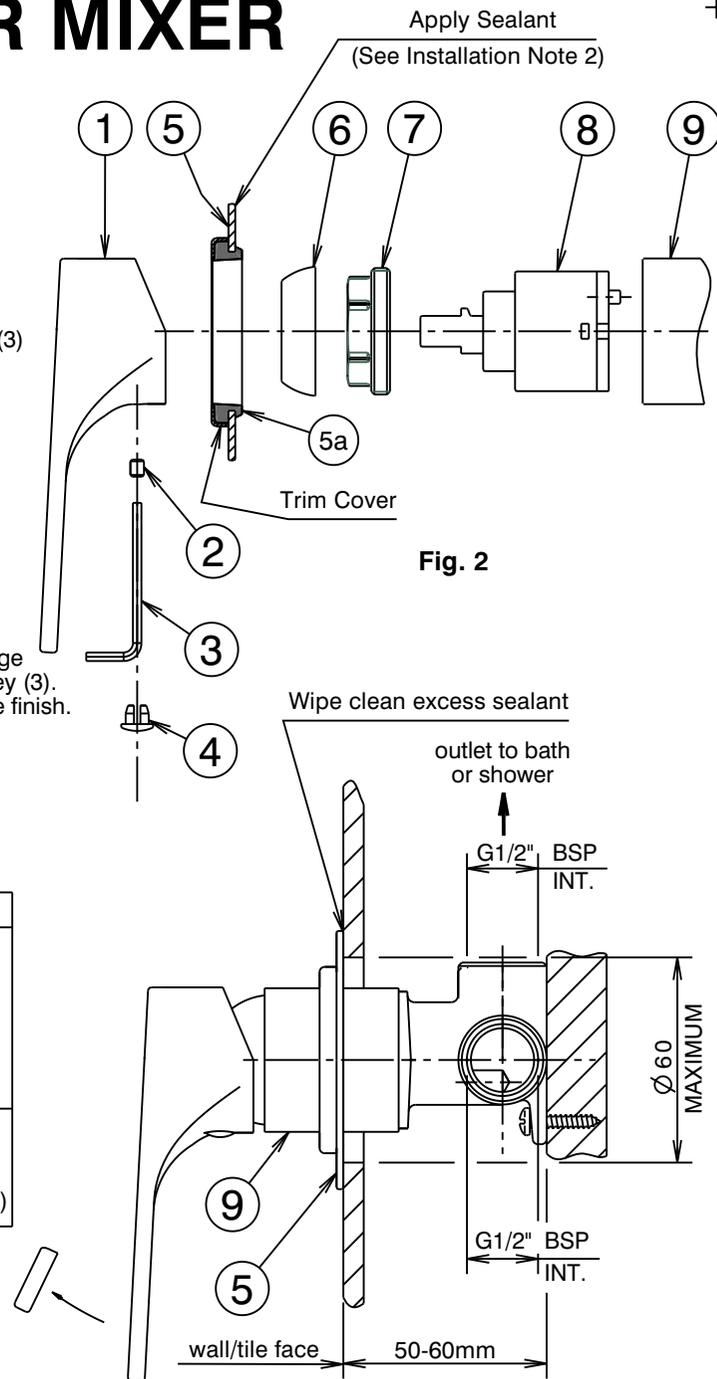

Fig. 1
Installation (Fig. 1 & 2)
- 3) Carefully slide the cover plate (5) together with trim cover & seal (5a) onto the mixer body (9). Ensure the **Caroma** marking is at the bottom then push firmly on the trim cover until the cover plate (5) contacts the wall/tile face and the sealant has formed a watertight joint. Wipe clean any excess sealant from the chrome surfaces & the wall/tile face (See Fig. 1).
- 4) Fit handle (1) taking care that it is pushed fully onto cartridge stem, then tighten grub screw (2) using the 2.5mm allen key (3). Fit plug (4), taking care not to damage the decorative finish.